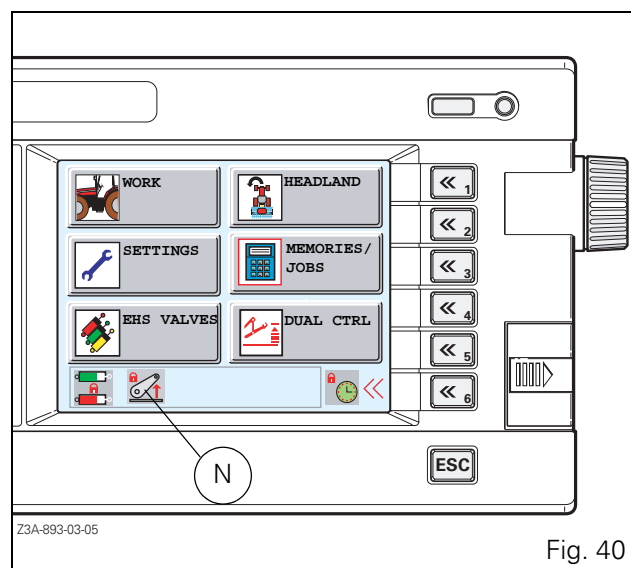

Fig. 40
- N. Linkage console locking indicator light (Fig. 40)